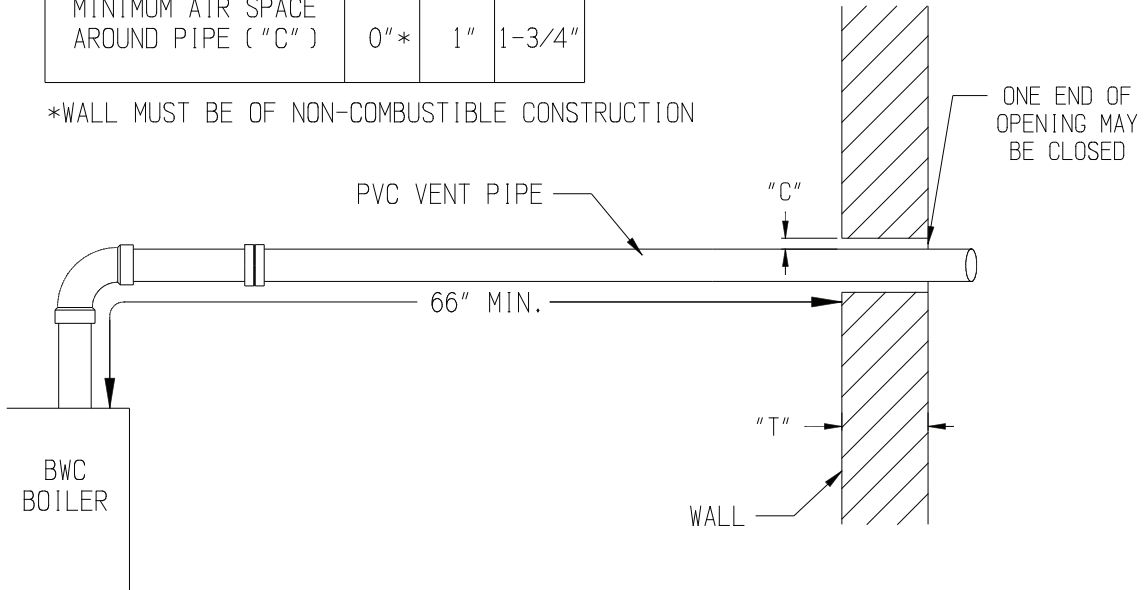

FIGURE 1.13: WALL PENETRATION CLEARANCES FOR PVC VENT PIPE
- The use of CPVC is required where venting passes through chase ways and through walls with clearances less than shown in Figure 1.13.